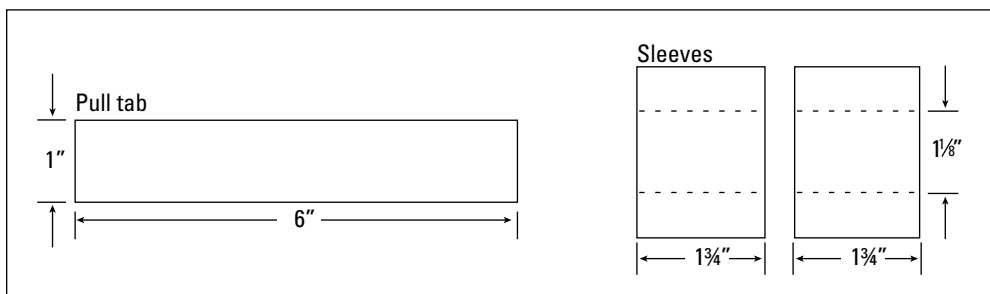

Figure 7-10:
4. Using your other piece of card, make the pull tab and sleeves (see Figure 7-10).